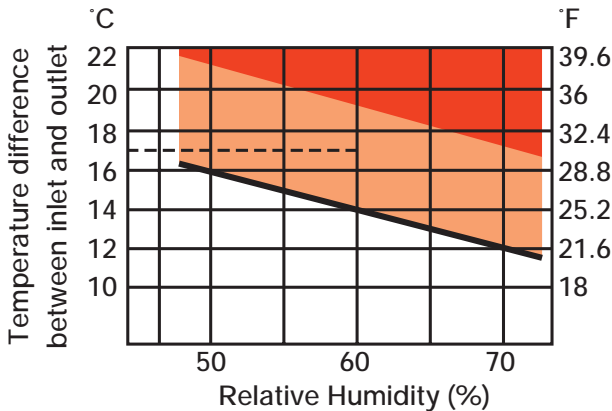

Fig. 129: Temperature Difference
- Measure the dry-bulb temperature at the cool air outlet, and calculate the difference between the inlet dry bulb and outlet dry bulb temperatures (Fig. 129).